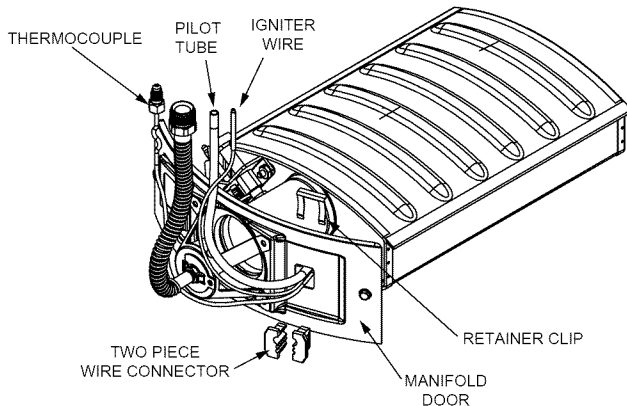

FIGURE 27.
2. Remove the retainer clip securing the two piece wire connector to the burner door assembly. (Note the orientation of the retainer clip). Insert the tip of a large flat head screwdriver between the clip and the top of the two piece wire connector. Carefully rotate the screwdriver to raise the clip. It may be necessary to remove the connector one side at a time. (See Figure 27.)
2. Remove the retainer clip from the back of the two piece wire connector and remove the two piece wire connector from the assembly (Figure 27).
5. Position the new thermocouple through the opening of the two piece wire connector (Figure 27). **NOTE:** The pilot tube should be located at the top followed by the igniter wire then the thermocouple.